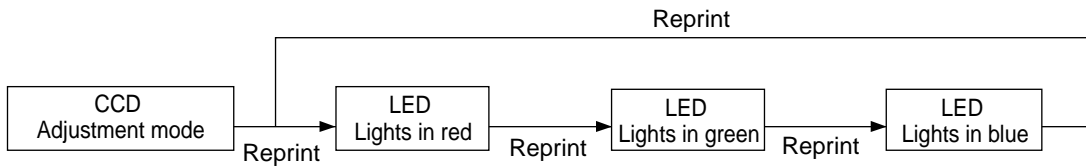

Fig. 5 Adjustment mode sequence
- The LED repeatedly lights in green, blue, and red when you press the Reprint button. (See Figure 5.)